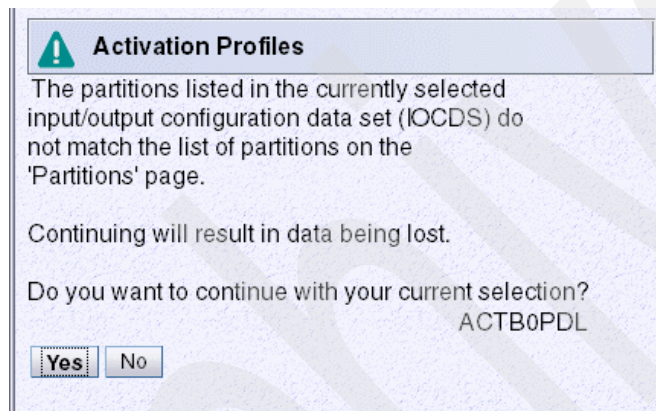

Figure 3-94 HMC - Activation Profiles, message ACTB0PDL
6. Click the IOCDS that you just updated in the previous step (for example, IOCDS-A0). The message shown in Figure 3-94 displays.